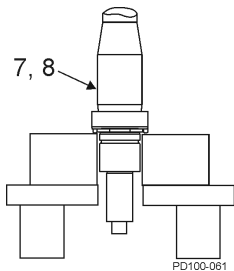

Figure 45 - Grease shaft
1. Lubricate the front bearing area of the shaft (Figure 45, item 7, 8) with oil or grease. See "Lubrication" on page 20. Place the shaft and bearing assembly upright in a hydraulic press with the liquid end facing down.